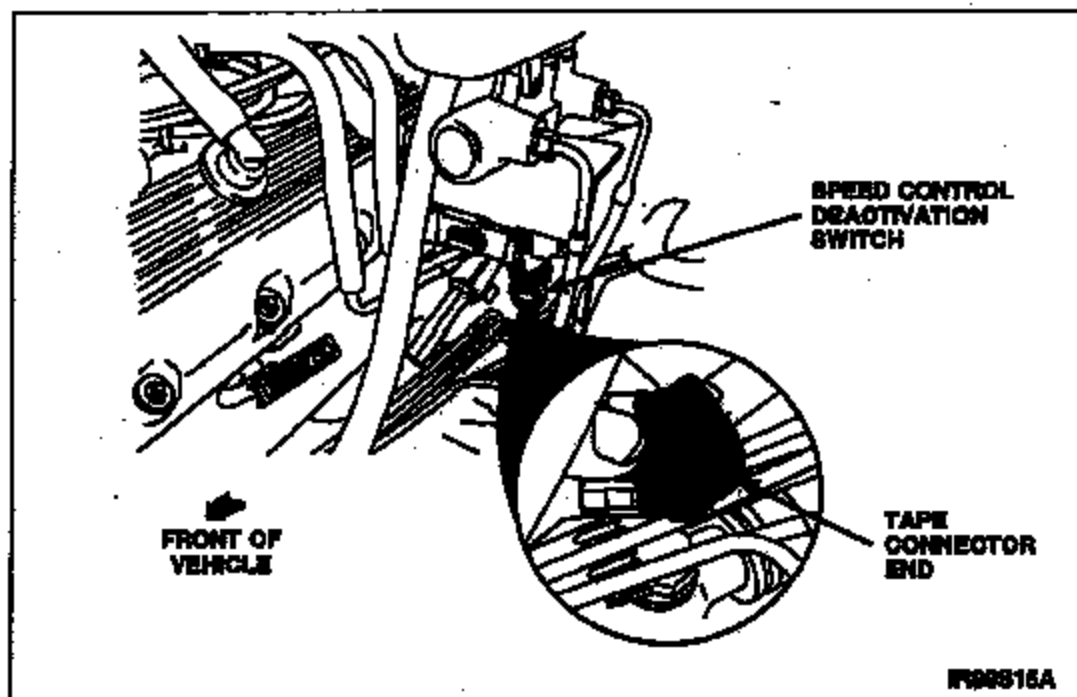

FIGURE 1
2. Disconnect the electrical connector from the speed control deactivation switch. See Figure 1.